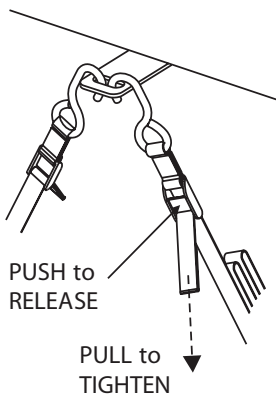

Figure 3-4
2. Pull the loose end of each restraint tight. To release, simply press the release tab and remove the hooks. *See Figure 3-4.*